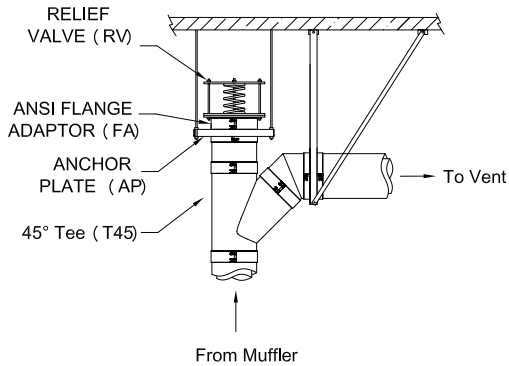
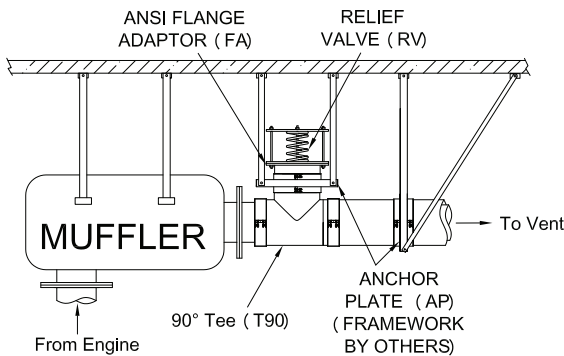

Figure 75b - Typical installations with a 45° Tee and an ANSI Flange Adaptor (FA)
Figure 75c - Typical installations with a 90° Tee and an ANSI Flange Adaptor (FA)
1. The Relief Valve (RV) should be located in the beginning of the system.
2. The orientation of the Relief Valve must be positioned upright, as shown on the **Figure 75b** with a 45° Tee (T45) or on **Figure 75c** with a 90° Tee (T90).
3. The Relief Valve must be connected to our ANSI Flange Adaptor (FA). Bolts, washers, nuts, and gasket (supplied by others) will provide a complete gas tight connection to the 125/150 lb. ANSI flanged Flange Adaptor.
5. The Relief Valve (RV) must be supported independently of the rest of the exhaust system. The best method to accomplish this is to locate an Anchor Plate (AP) support at the joint between the ANSI Flange Adaptor (FA) and the adjacent Tee (T45 or T90). It is crucial that the Anchor Plate (AP) is properly secured to building structure so that it can withstand the forces generated in case of delayed fuel ignition.